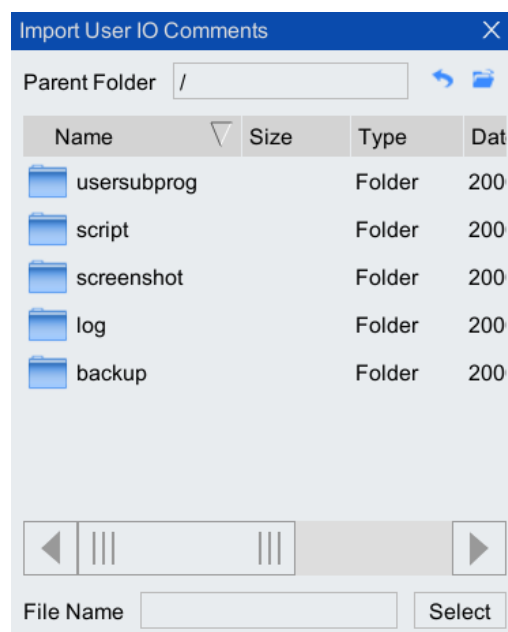

Figure 7-11 "Import user IO comments" list box
Step1. In the main interface of the teach pendant, click "File > Restore Backup > User IO Comment" option, and the "Import User IO Comment" list box as shown in Figure 7-11 will pop up.